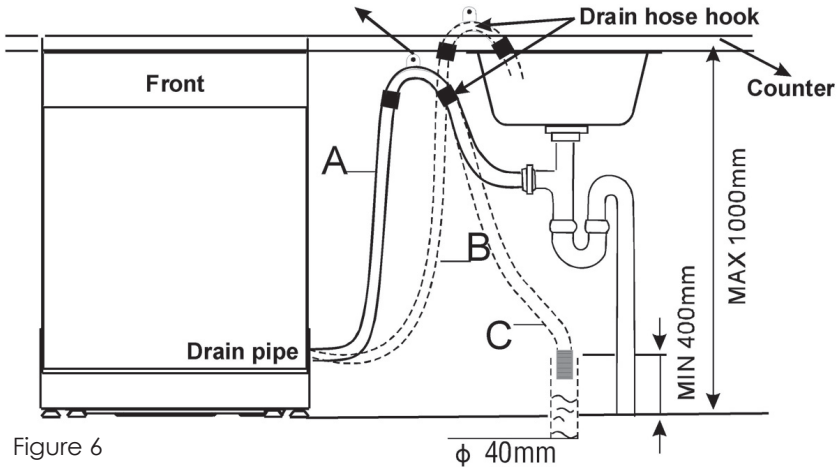

Figure 6
Insert the drain hose into a drain pipe with a minimum diameter of 4 cm, or let it run into the sink, making sure to avoid bending or crimping it. Use the special plastic support that comes with the appliance (figure 6). The free end of the hose must be at a height between 400 and 1000 mm and must not be immersed in water to avoid the back flow of it. ATTENTION: The special plastic hose support must be solidly fastened to the wall to prevent the drain hose from moving and allowing water to spill outside the drain.
4. Connect the drain hose. Refer to diagram. (Figure 6)